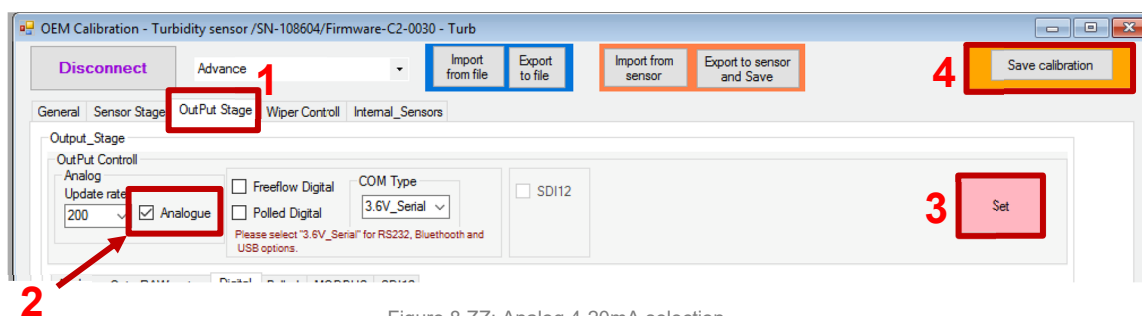

Figure 8.ZZ: Analog 4-20mA selection
- Select "OutPut Stage" option (Figure 8.ZZ: Analog 4-20mA selection#1).